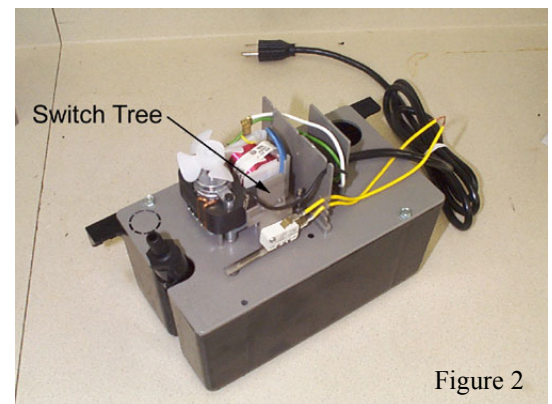

Figure 2
3. Locate the switch tree and remove the black wire and the blue or red wire from the black switch. This is the main switch. The white switch with yellow leads is the safety switch and may or may not be present on your pump. Refer to figure 2 & 3.